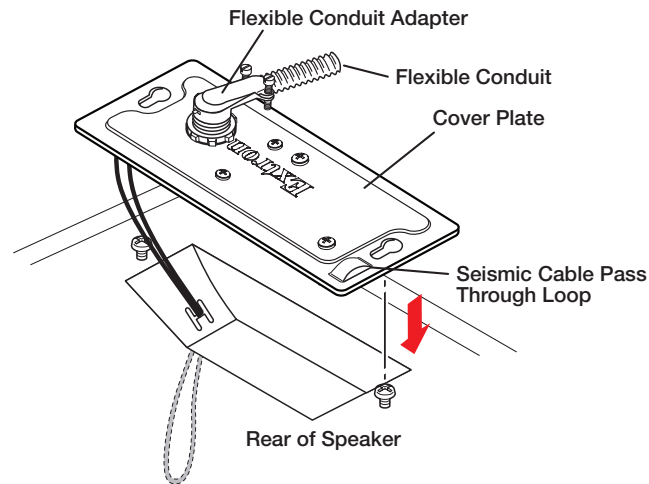

Figure 27. Routing the Cables through the Cover Plate Using a Flexible Conduit
- Insert the conduit into the cover plate opening using an appropriate conduit adapter, and secure the conduit to the plate as shown in figure 27.